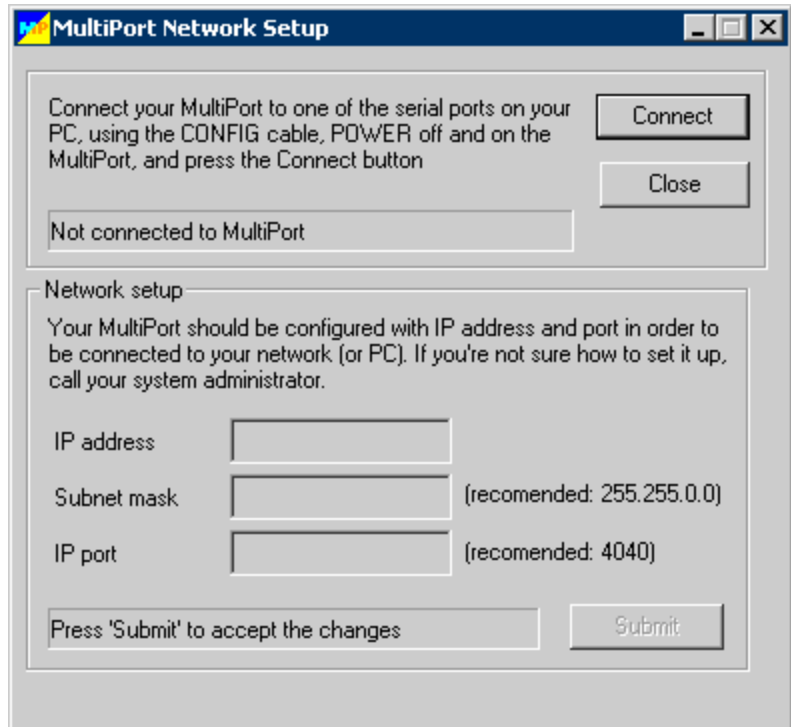
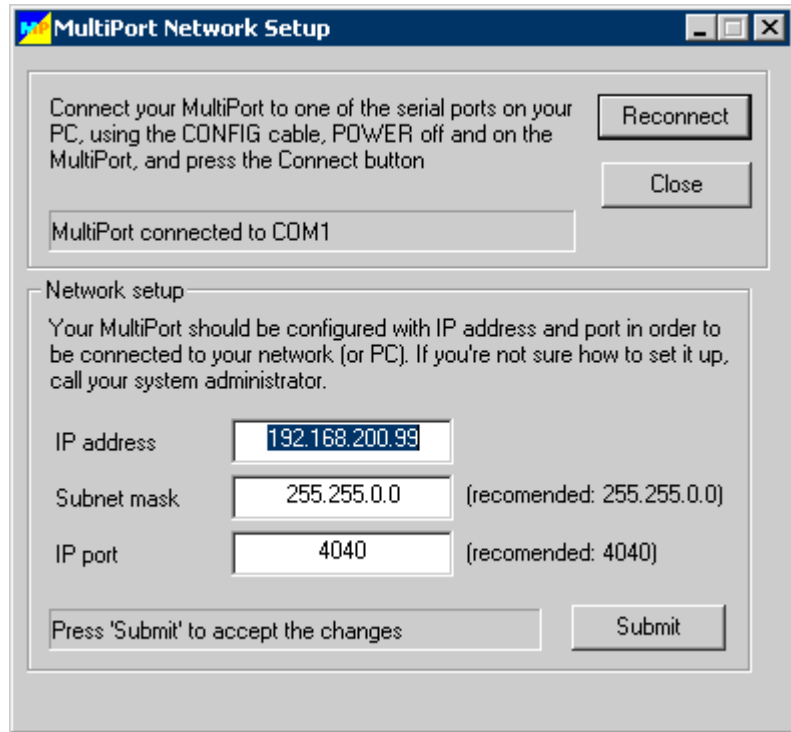

Figure 47. MultiPort Network Setup Dialog Box
Figure 48. MultiPort Network Setup Dialog Box (Completed)
- _ Start the *MultiPort Network Configuration* program (**Start|Programs|SonTek Software|MultiPort Network Configuration**). Follow the on-screen instructions (Figure 47):
- _ If no entries exist in the **Network setup** fields (Figure 47), or if you need to change the settings (Figure 48):